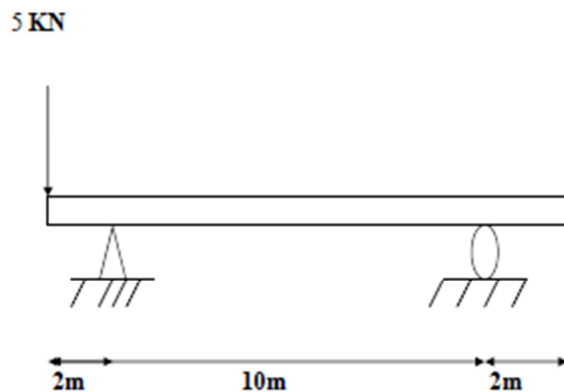

Fig: 7
- b) Draw shear force and bending moment diagrams for the beam shown in figure 7 (10 marks)